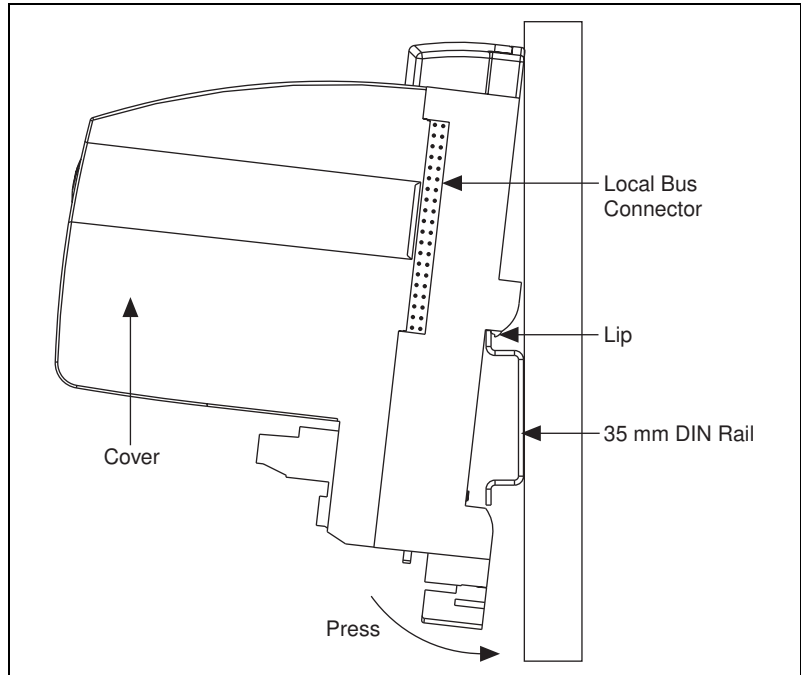

Figure 2-6. Mounting the FP-3000 onto a DIN Rail
2. Hook the lip on the rear of the FP-3000 onto the top of a 35 mm DIN rail and press the FP-3000 down onto the DIN rail, as shown in Figure 2-6.